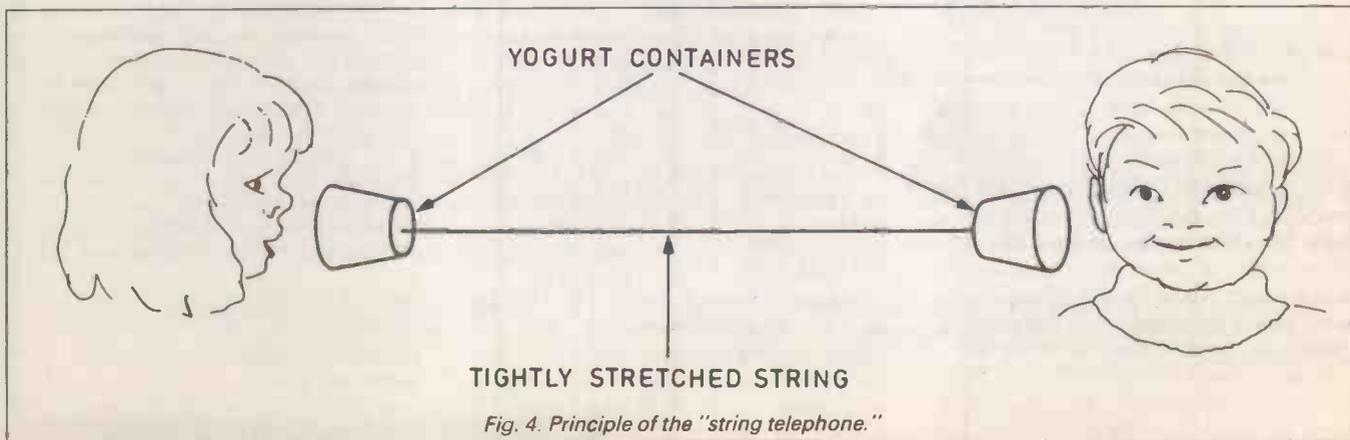

Fig. 4. Principle of the "string telephone."
1. String telephone: This experiment needs two people, two yogurt containers and a long piece of thin string. The string is passed through a hole in the bottom of each container. Knots are then tied to prevent the string from pulling free (see Fig. 4). Two children go to a large open space and take one container each. The string is now pulled fairly tightly. One person speaks closely into one yogurt container while the other listens at the other.